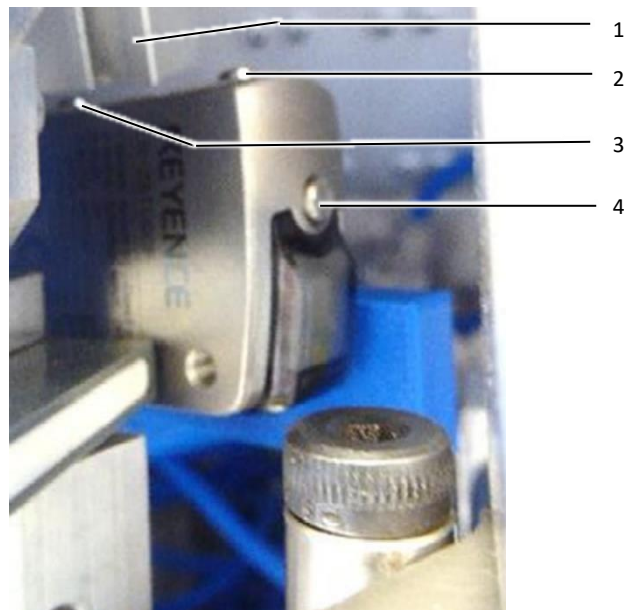

Fig. 16: Light barrier
- Push the sleeve separating blade (fig. 16, item 1) upwards.
- Unlock the light barrier by keeping the setting buttons (fig. 16, item 2 and 3) pressed concurrently for 3 seconds.
- Keep the setting button on the right side (fig. 16, item 4) pressed for 3 seconds until "SET" flashes in the display.
- Set the value "20" (for fine adjustment, the sensitivity can be set in the range -99 to 999 with the setting buttons (fig. 16, item 2 and 3)).
- Lock the light barrier by keeping the setting buttons (fig. 16, item 2 and 3) pressed concurrently for 3 seconds. "LOC" appears on the display.